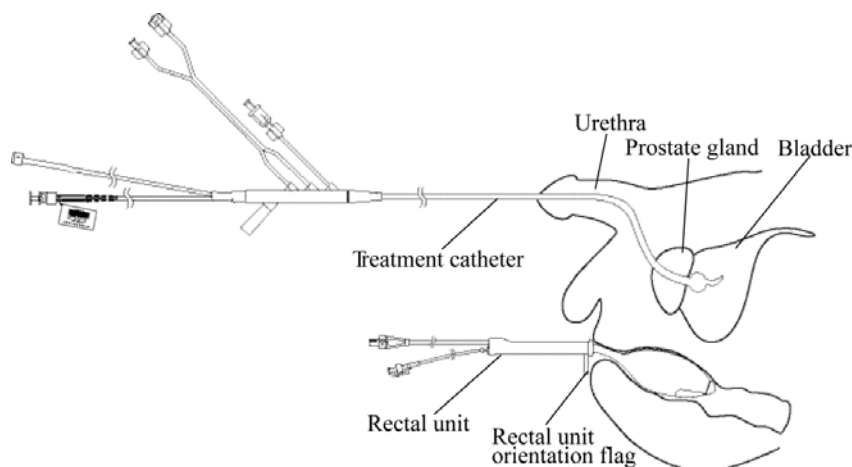

Figure 2-12. Inserted MDS and Single Use RTU
10). Position the MDS properly by pulling on it until the balloon is seated in the bladder neck, locating the microwave antenna within the preprostatic urethra (*Figure 2-12*). **Verify MDS position with the ultrasound probe.**
11). If the MDS position is not acceptable, it may have to be rotated or reinserted. Push the MDS through the urethra until the MDS balloon is completely in the bladder. Rotate the MDS, and then pull back until you feel mild resistance (*Figure 2-12*). **Verify the position of the MDS with ultrasound.**